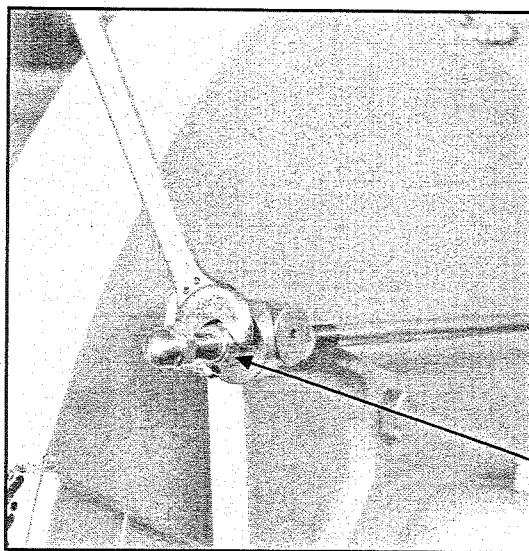

Fig. 9
1. Release the self-blocking nut (Fig. 9 part. **A**) to release the tie-rod activating the disappearing protection